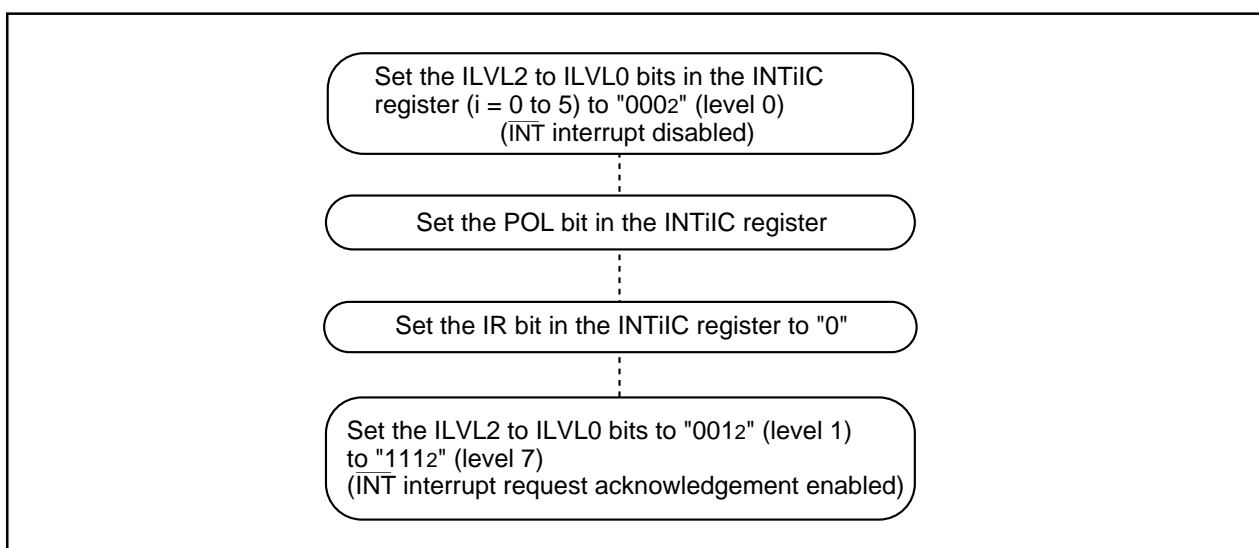

Figure 27.3 Switching Procedure for  $\overline{\text{INT}}$  Interrupt
- The IR bit may change to "1" (interrupt requested) when switching the polarity of the  $\overline{\text{INT}}0$  to  $\overline{\text{INT}}5$  pins. Set the IR bit to "0" (no interrupt requested) after selecting the polarity. Figure 27.3 shows an example of the switching procedure for the  $\overline{\text{INT}}$  interrupt.